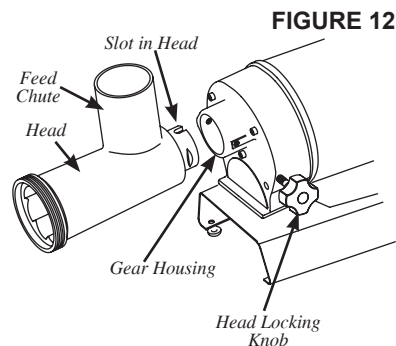

FIGURE 12
1. Insert the **Head** into the **Gear Housing** with the feed chute of the **Head** facing straight up. You will need to line up the slot in the **Head** with the **Pin** inside the **Gear Housing**. Be sure the **Head** is seated fully into the **Gear Housing** (Figure 12).